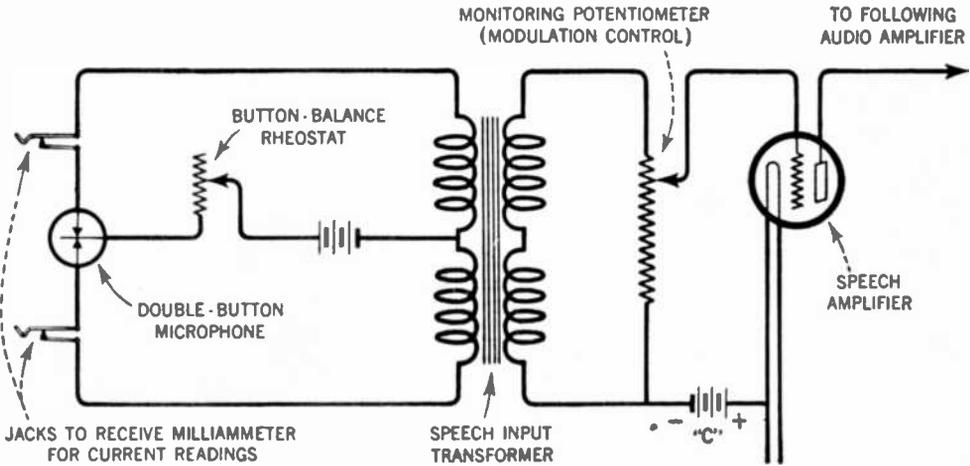

FIG. 21.—A double-button carbon-type microphone connected in an amplifier circuit.
*Answer.* Transmitter is the technical name for the microphone. Refer to the diagram in Figure 21 showing a double-button microphone connected to a source of e.m.f. of about 12 volts, and to a split transformer. A carbon transmitter of this type contains two small cups of carbon granules through which current will pass from a small battery. The granules in the buttons press against either side of a thin diaphragm which has its areas gold plated. (See Figure 22.) The potential across the buttons is carefully regulated to equalize the current in each button for proper operation in order to insure that the output current of the microphone will resemble as closely as possible the wave form of the original sounds. A split transformer is required with the two-button microphone and, as the diagram clearly indicates, the current furnished by the battery flows in opposite directions through either half of the transformer primary. When the diaphragm moves under the impact of the sound waves the pressure against one set of granules is increased while the other is decreased. This differential action (sometimes called push-pull) sets up a varying flux in the iron core of the transformer which induces a fluctuating a-c. voltage in the secondary possessing all of the characteristics of the sound waves. By this arrangement the voltage in the secondary reaches a value considerably greater than would be possible if only one button were employed. The current through each button is read on a milliammeter plugged in the circuits when tests for button balance are made.